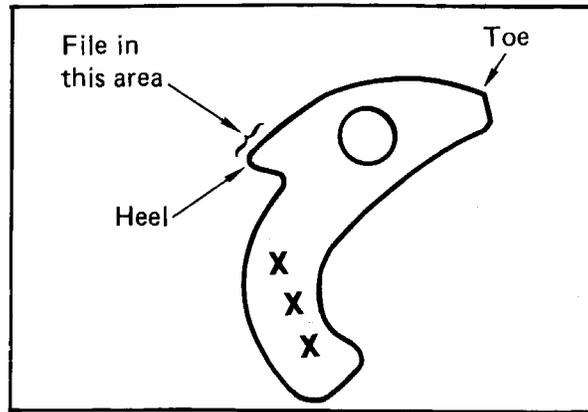

Figure 1
3. Use finger pressure to push inward on the toe (see figure 1) of each flyweight so that the flyweight heel protrudes outward.
4. Using a fine #1, double cut, 1/2 inch wide file, at least 3/32 inch thick, pass the file across the heel of the flyweight attempting to remove material. (See figure 1). If the flyweight has been properly heat treated the file will "glide" smoothly over the heel of the flyweight, removing no material. If the flyweight is not properly heat treated (soft), the file will not "glide" easily across the surface of the flyweight heel, and material will be removed.